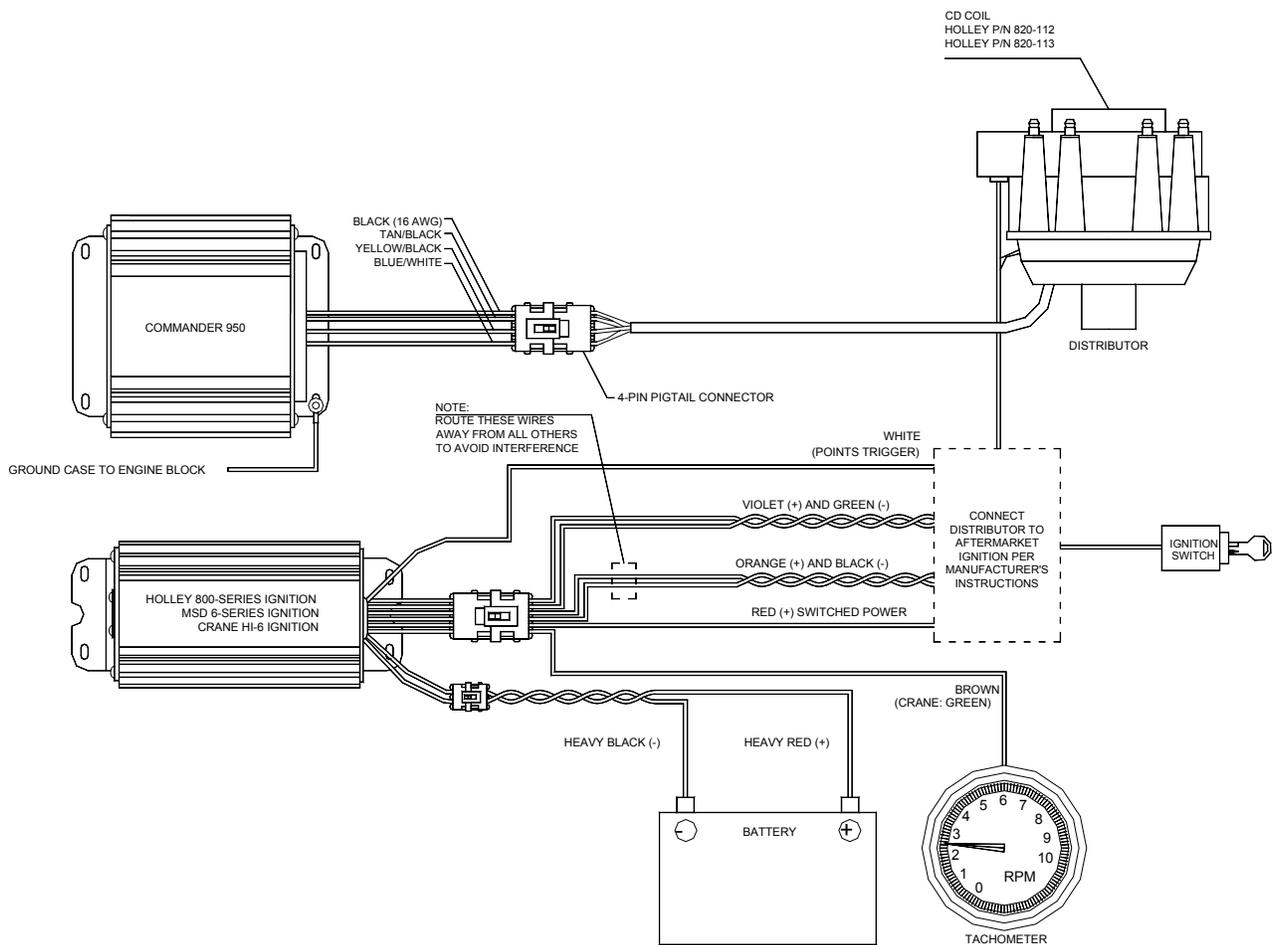

Figure 79
- Figure 79:** Commander 950 PRO to Aftermarket Ignition Using Computer Controlled Distributor, 7-Pin Module.